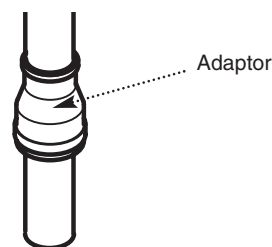
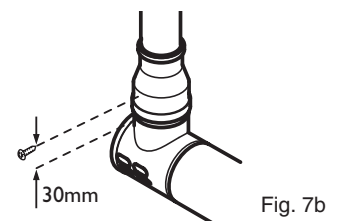

Fig. 7c
Fig. 7b
9. The 60Ø exhaust can now be fitted. Slide the adaptor over the plain end of the 60Ø exhaust (Fig. 7c) and engage the exhaust in the terminal. Slide the adaptor down over the spigot. Mark and drill the adaptor, using a 2mm bit, as shown in Fig. 7b. Secure the adaptor to the spigot using one of the screws supplied.